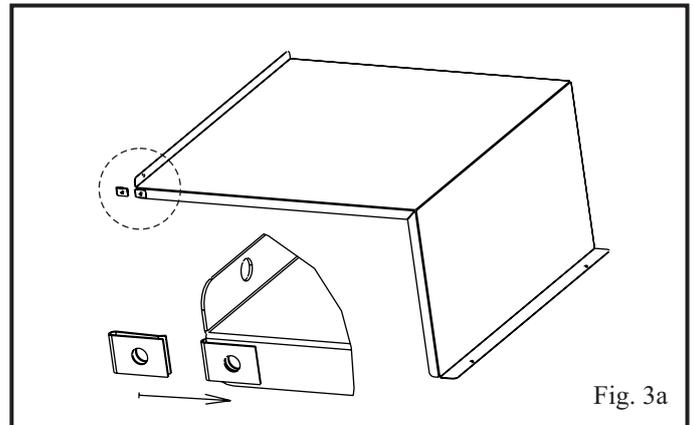

Fig. 3a
- Internal Shelf (1)
- 10-24 U-type Clip (1)
- 10-24 x 1/2" Long Black Bolt (1)
- Plastic Push-in Fastener (2)
A. Attach #10-24 U-type fastener to internal shelf as shown (Fig. 3a)